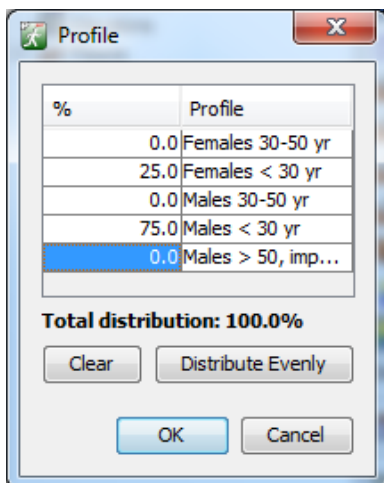

Figure 56: Editing the distribution of profiles
- **Profile:** This option allows a distribution of profiles to be set for the occupants, such as specifying that 25% of the added occupants should be females < 30 years old, 30% children, etc. The label shows the currently set distribution, and if there is more than one profile defined in the model, the value can be clicked to edit the distribution. This will open a dialog as shown in Figure 56.